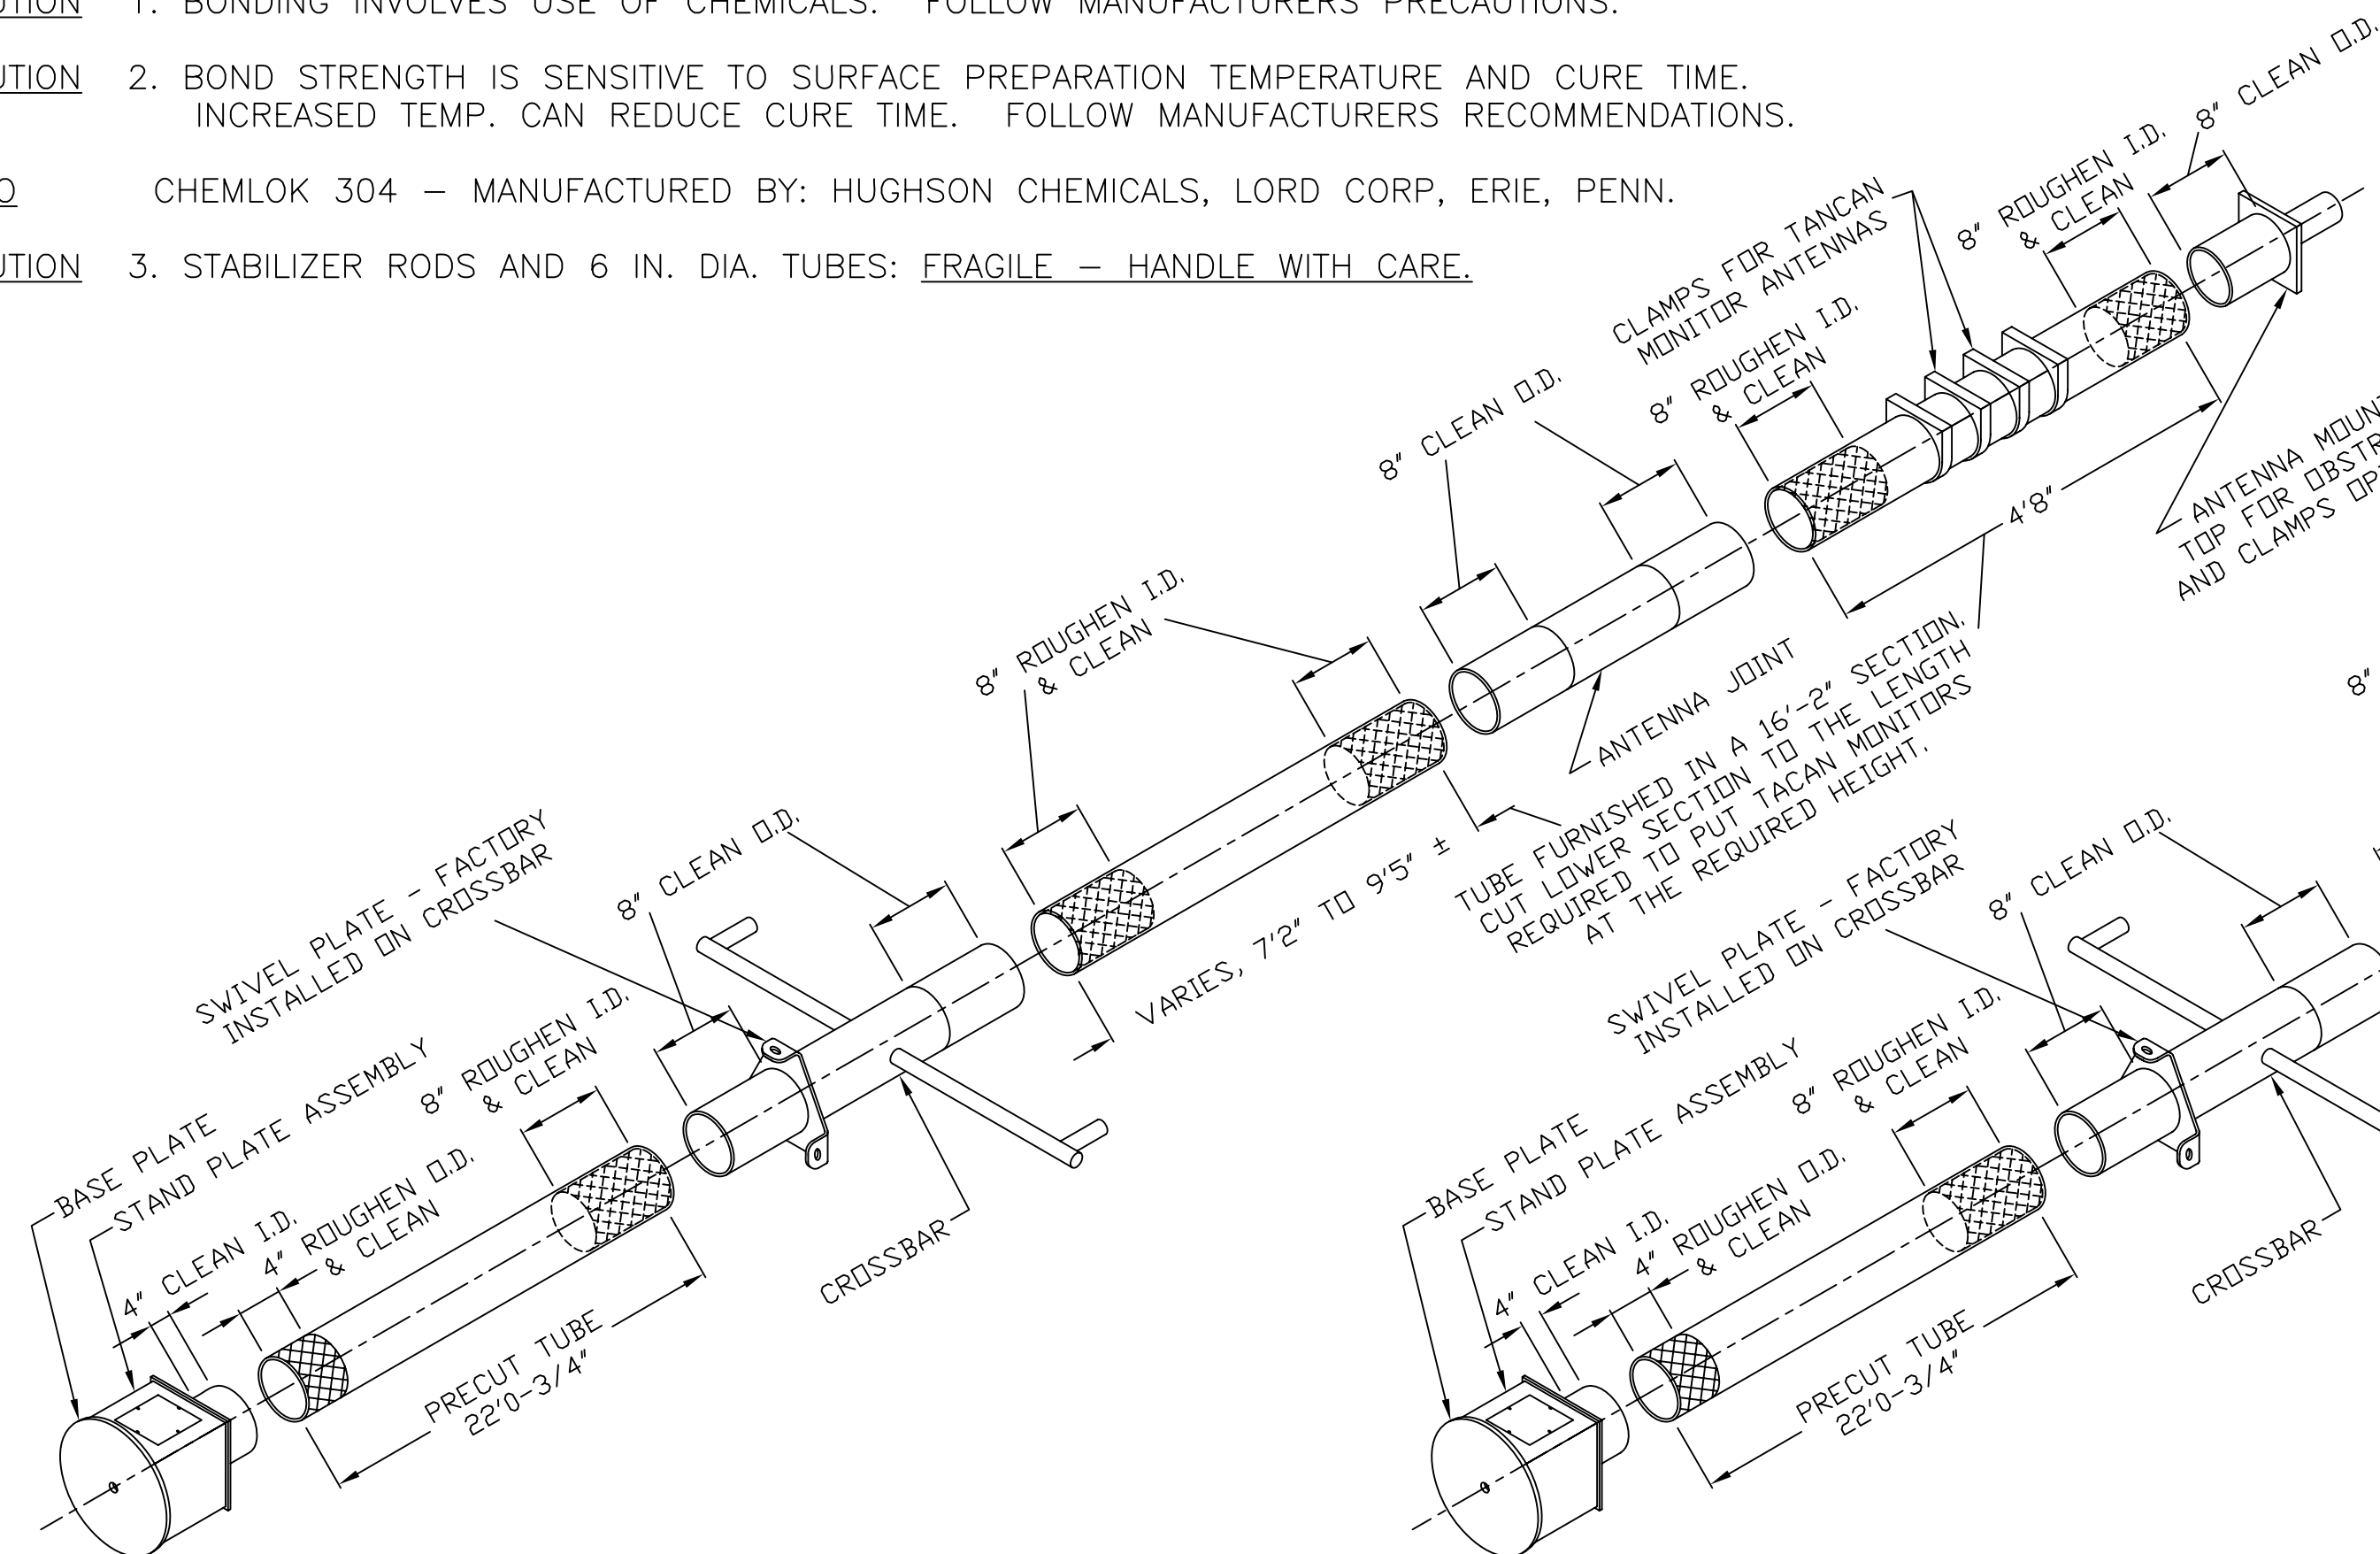
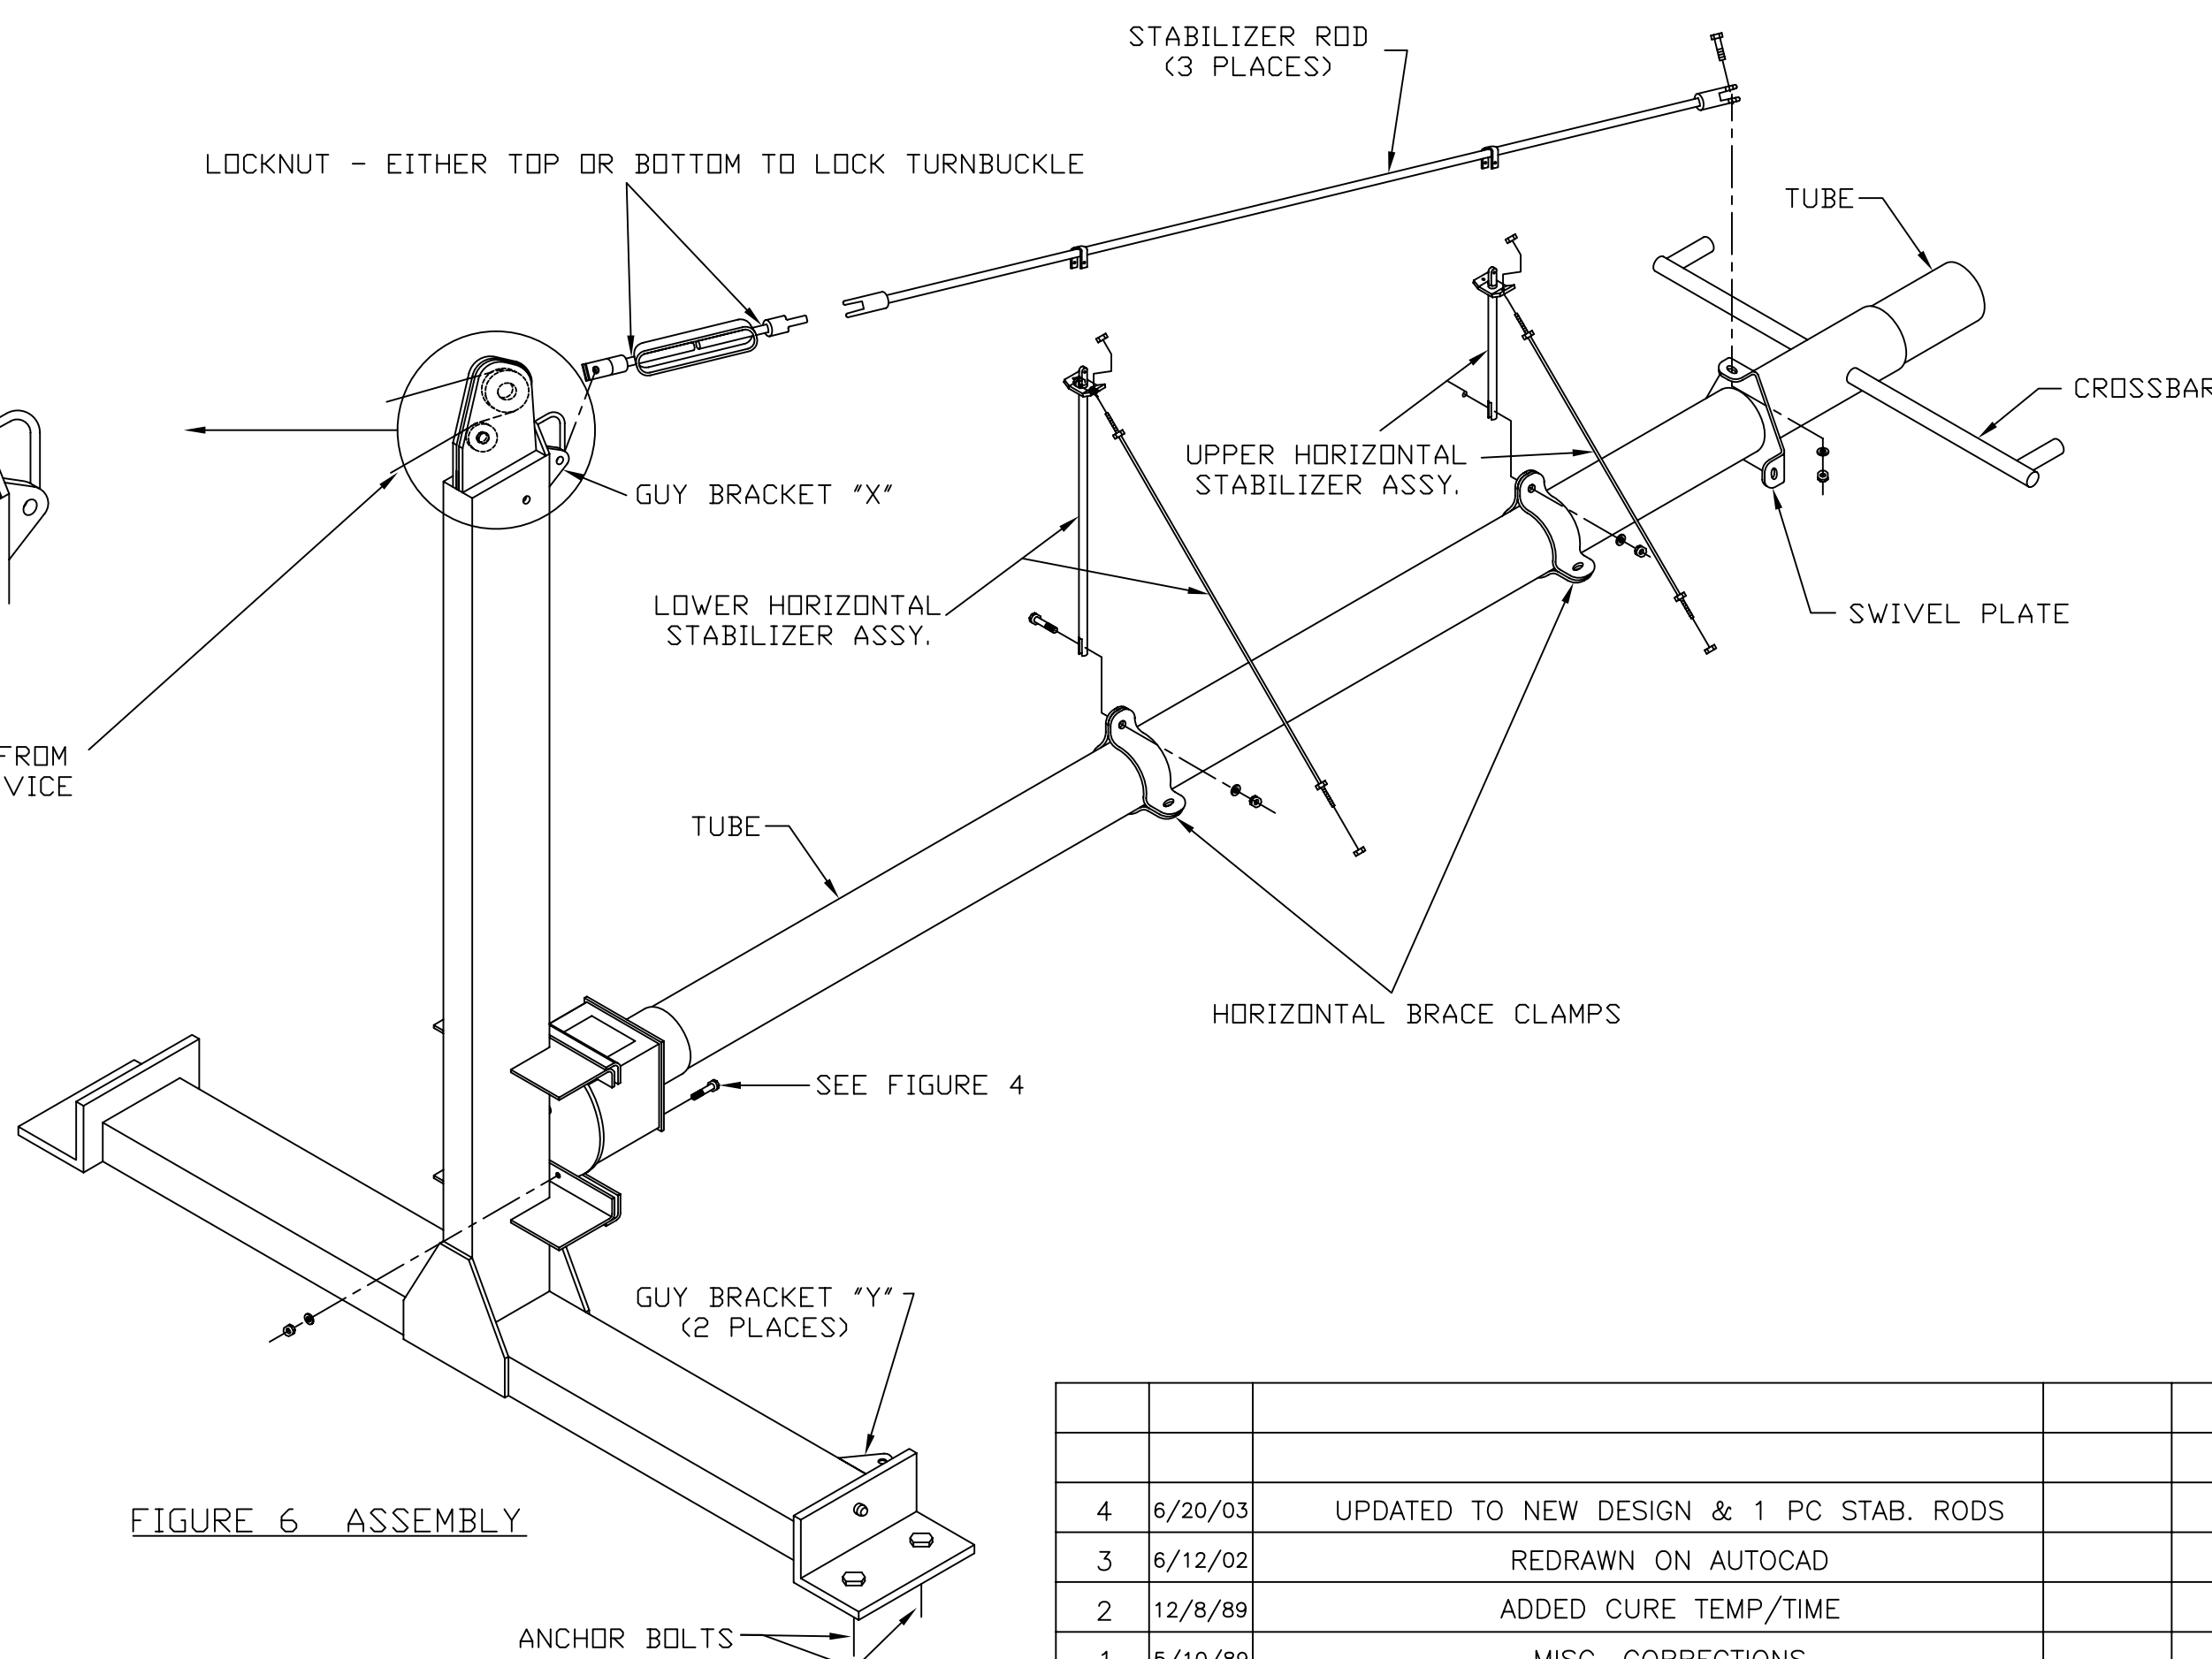
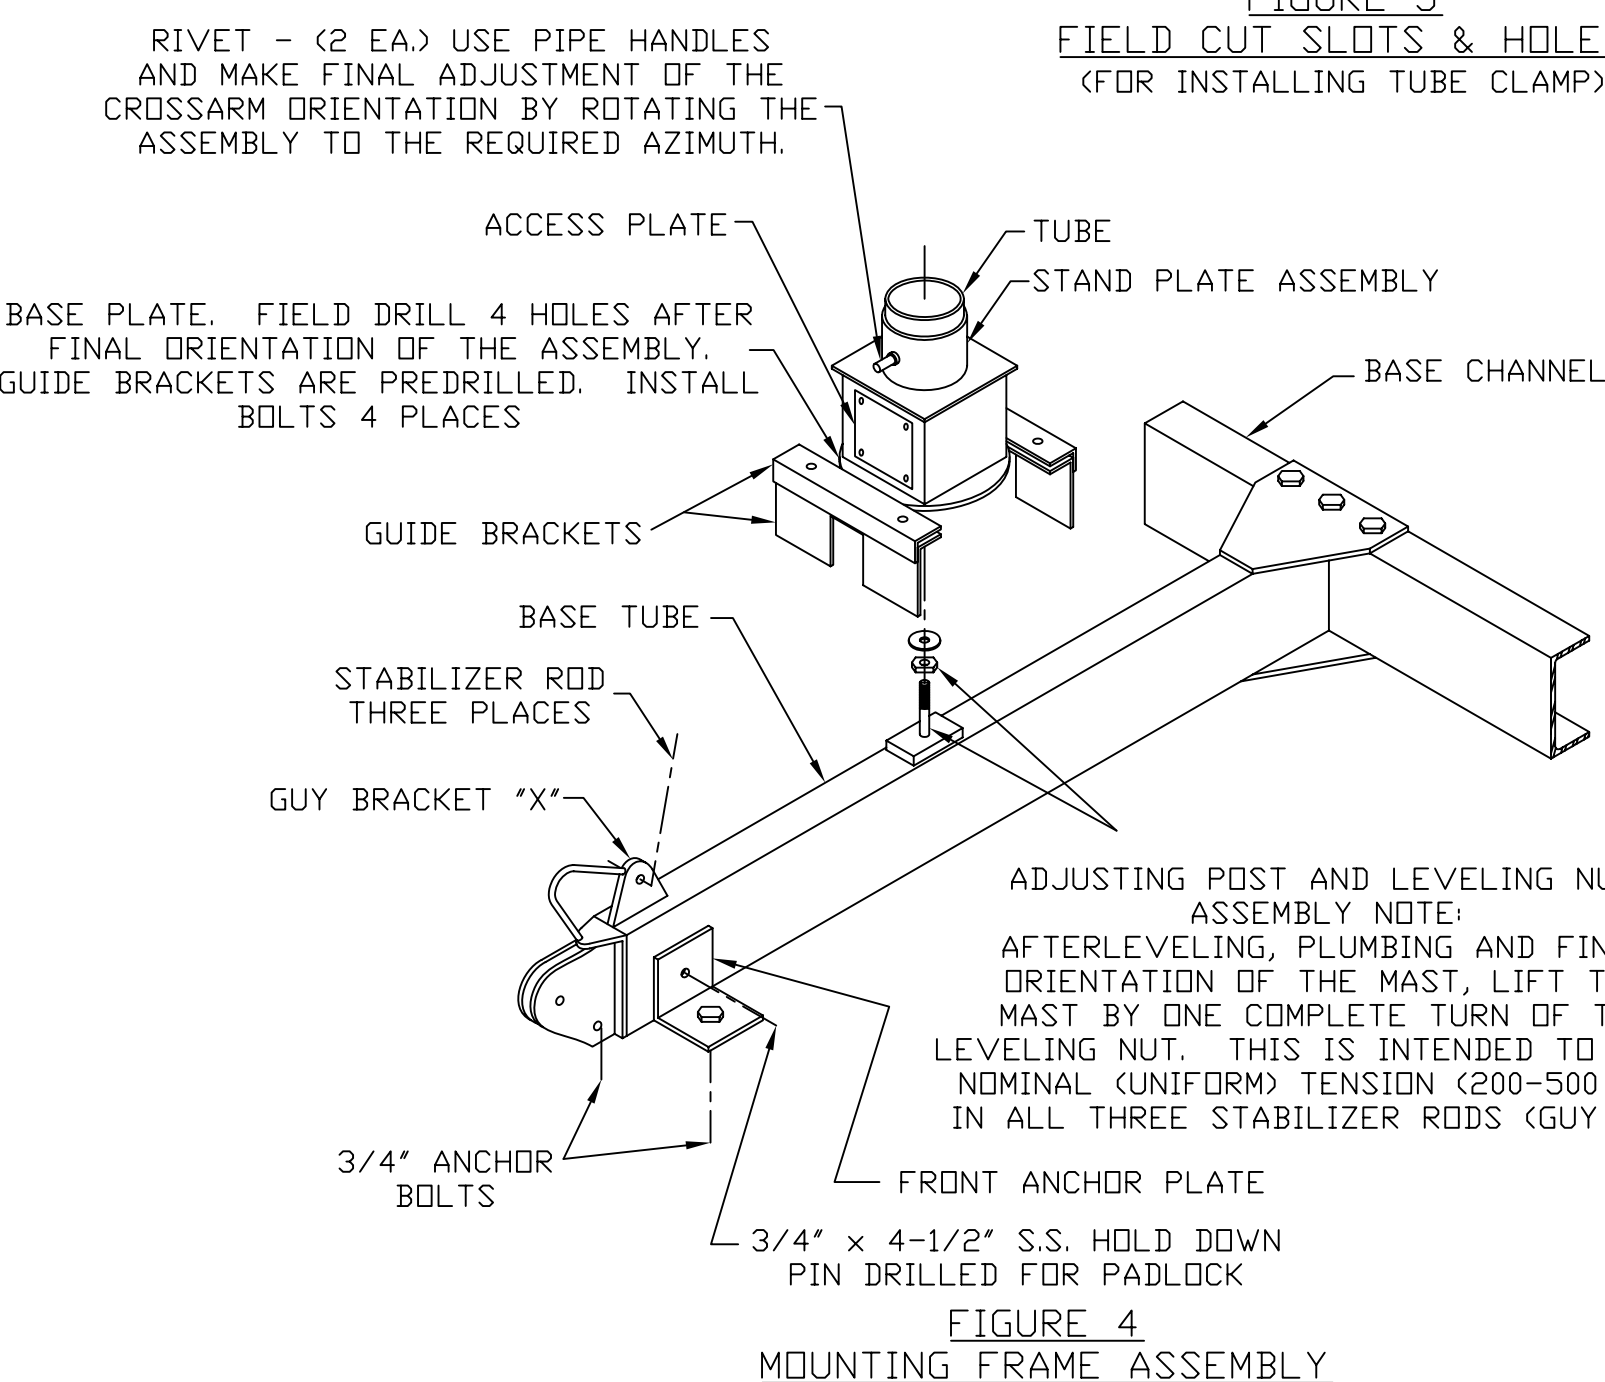

FIGURE 1
FIGURE 6 ASSEMBLY
FIGURE 4
2. **CUTTING & BONDING INSTRUCTIONS:** SEE FIGS. 1, 2 & 3. CUT THE TACAN MONITOR TUBES USING A TABLE SAW WITH DIAMOND OR CARBIDE ABRASIVE BLADE. ALL SAW CUTS SHALL BE AT RT. ANGLE TO TUBE AXIS. DEBURR SAW CUT EDGES WITH A FILE. FOR BONDING, ROUGHEN SURFACES TO BE BONDED, AS SHOWN IN FIGS. 1, 2 & 3 USING EMERY CLOTH. CLEAN MATING SURFACES THOROUGHLY WITH A SOLVENT (M.E.K., TOLUENE, OR ACETONE). MIX EQUAL PARTS OF CHEMLOK 304-1 EPOXY RESIN & 304-2 HARDENER. STIR THOROUGHLY BUT AVOID AIR INCLUSION. FOR EACH JOINT TO BE BONDED, SPREAD A LIGHT COAT OF MIXED ADHESIVE ON BOTH THE SURFACES TO BE BONDED. ASSEMBLE THE CROSSBARS AND ANTENNA JOINT TO THE TUBES FIRST. THE SWIVEL PLATE IS FACTORY INSTALLED ON THE CROSSBAR. SLOWLY SLIDE THE TUBES ONTO THE CROSSBARS AND ANTENNA JOINT WHILE ROTATING TO EXCLUDE AIR. CURE 48 HOURS AT ROOM TEMPERATURE ABOVE 65°. MAKE SURE THE UPPER RCAG CROSSBAR IS DIRECTLY ABOVE THE LOWER CROSSBAR. INSTALL THE TACAN ANTENNA JOINT WITH ITS CABLE CONNECTORS ON THE SAME ORIENTATIONS AS THE CROSSBAR. NEXT, BOND THE STAND PLATE ASSEMBLY TO THE LOWER TUBE USING THE SAME PROCEDURE EXCEPT THE TUBE SLIDES INTO THE STAND PLATE ASSEMBLY. ORIENT THE STAND PLATE ASSEMBLY ON THE TUBE SO THAT WHEN ITS ACCESS PLATE FACES THE FRONT OF THE INSTALLED MOUNTING FRAME ASSEMBLY (FIG. 4) THE CROSSBAR IS ON THE APPROXIMATE AZIMUTH REQUIRED BY THE SIRE PLAN. MINOR ADJUSTMENTS IN THE CROSSBAR ORIENTATION CAN BE MADE AFTER THE STRUCTURES ARE ERECTED BY ROTATING THE ENTIRE STRUCTURE AS INDICATED ON FIG. 4. THE FINAL ORIENTATION OF THE CROSSBAR SHALL BE ON THE AZIMUTH REQUIRED BY THE SITE PLAN.
3. **IMPORTANT** ~ ALL STRUCTURES ARE TO BE ASSEMBLED IN HORIZONTAL POSITION (SEE FIG. 6.) ELECTRICAL WORK NOT SHOWN HERE. USE MOUNTING FRAME ASSEMBLY SHOWN IN FIG. 4. INSERT HINGE PINS WHICH ARE ATTACHED TO BASE CHANNEL, INTO LEFT AND RIGHT ANCHOR PLATES. PLACE FRONT ANCHOR PLATE AND LEFT AND RIGHT ANCHOR PLATES OVER 3/4\"/>
4. RAISE THE STRUCTURE TO A VERTICAL POSITION USING THE TILT DEVICE. LEVEL AND PLUMB THE STRUCTURE BASE AND MAST. WITH THE USE OF A TRANSIT, MAKE THE FINAL ORIENTATION OF THE CROSSARMS. DRILL THE BASE PLATE AND INSTALL BOLTS TO LOCK IN PLACE (SEE FIG. 4). IN THE LEVEL AND PLUMB POSITION, ALL THREE STABILIZER RODS (GUY RODS) SHOULD BE SNUG TIGHT. THEN USING ONE TURN OF LEVELING NUT, LIFT NL-40 MAST (SEE ASSEMBLY NOTE FIG. 4).